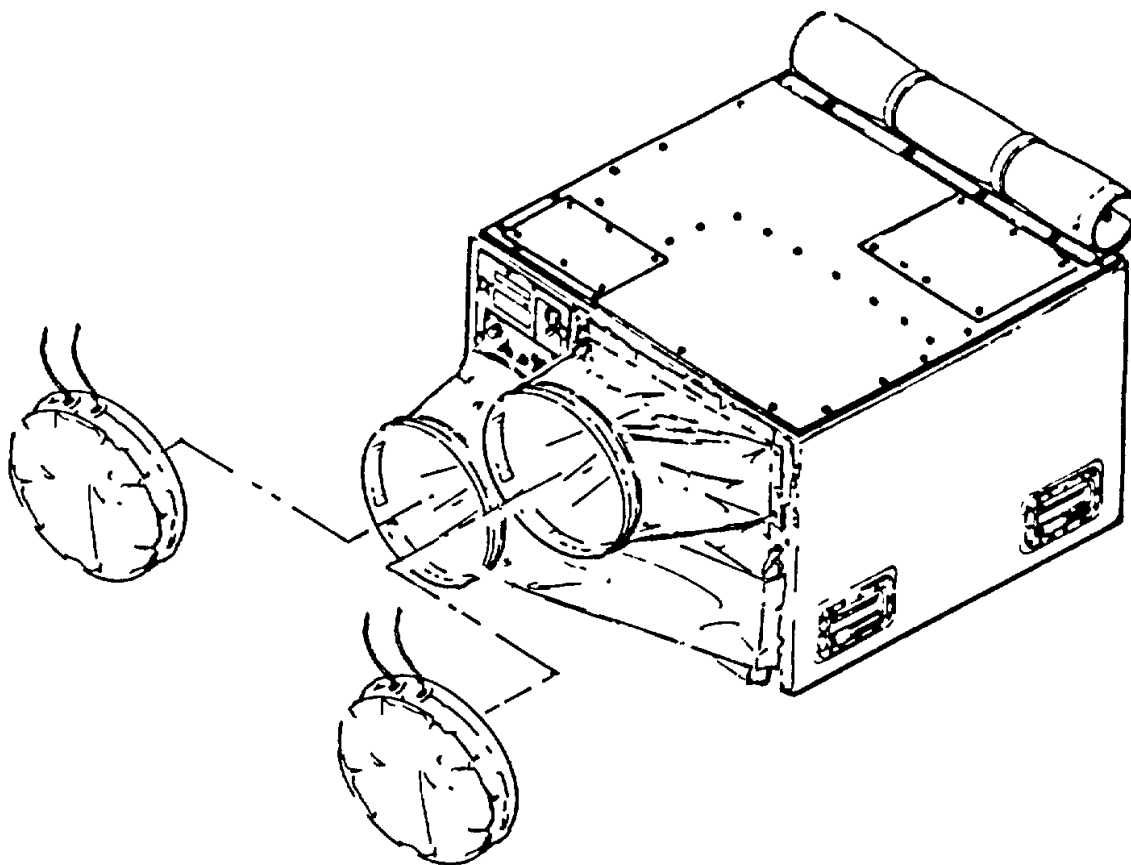

Figure 4-15. Covers, End Adapter.
2. Position return duct adapter (6) on air conditioner.
3. Install two lockwashers (5) and two screws (4).
4. Install six lockwashers (3) and six screws (2).
5. Install return insulation blanket (1).
**4-24. COVER, ADAPTER END (Figure 4-15).**